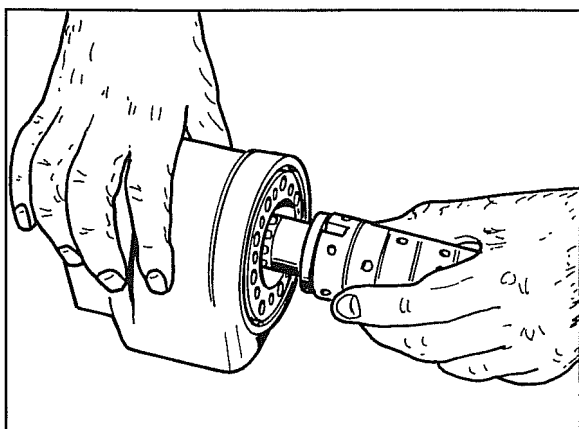

Fig. 66
- Insert the distributor cylinder on the power steering unit body positioning it as shown in Fig. 66.